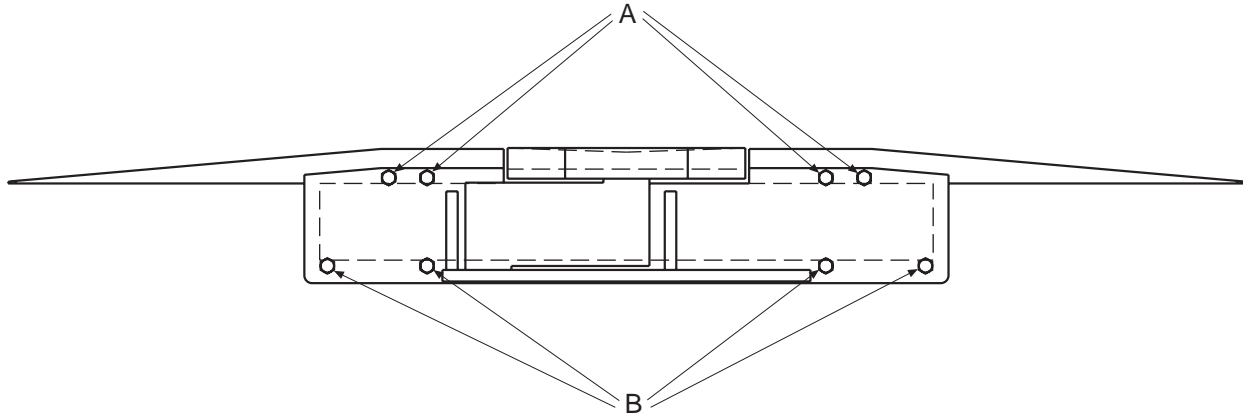

Figure 3: Top & Lower Bolts of Scale Mounting Brackets
2. To begin installation, loosen, but do not remove, the four top bolts (Figure 3, A, top of next page) of the scale bracket. Remove the four lower bolts (Figure 3, B, top of next page) of the scale bracket. Slide the scale unit over the rail with the load cell bracket toward the rail-hanger side of the rail. At this point, move the scale left or right along the rail to the desired location.